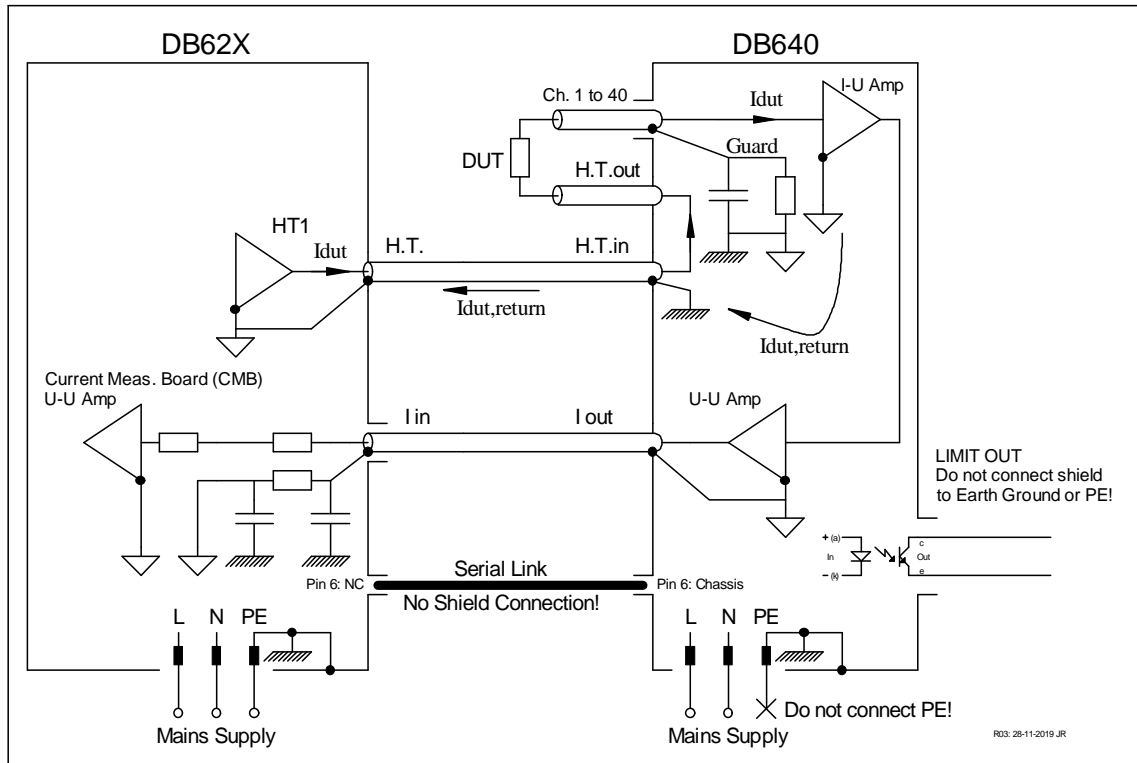

Fig. 1: Connecting the DB640 with a DB62X Megohmmeter.
Fig. 1 shows the basic connection of the DB640. Note that the DB640 is grounded through the H.T. cable shield and nowhere else! This is to prevent the measure return current from flowing through the Power Earth (PE).